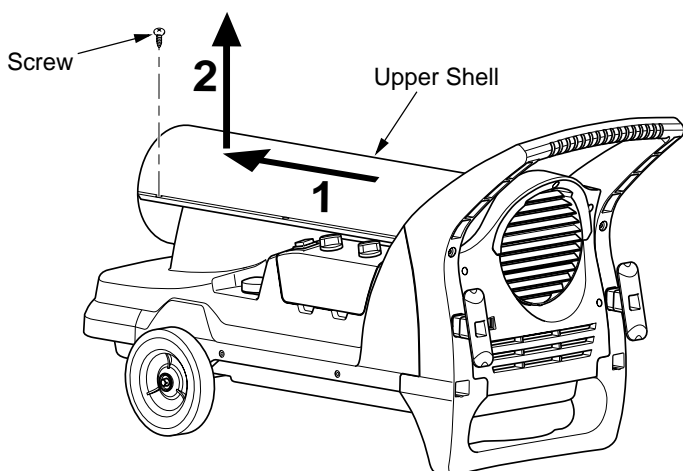
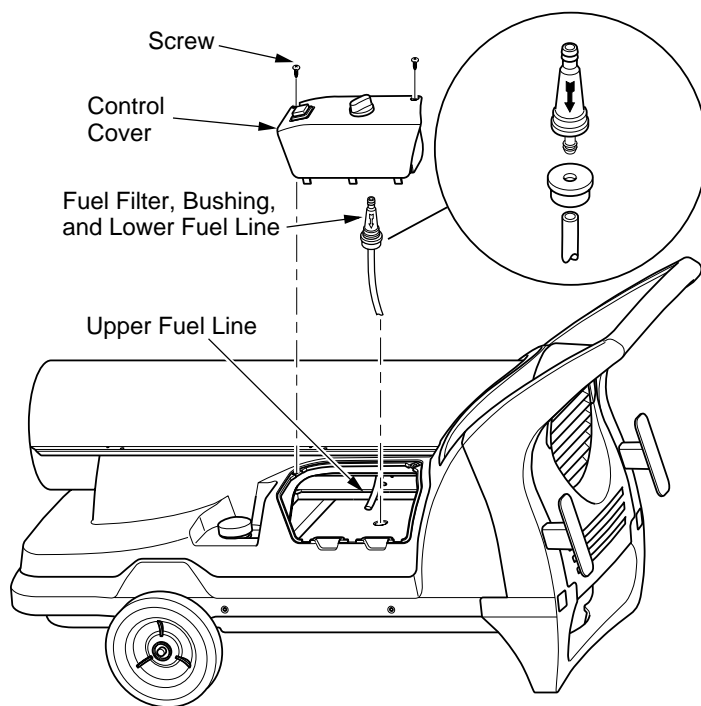
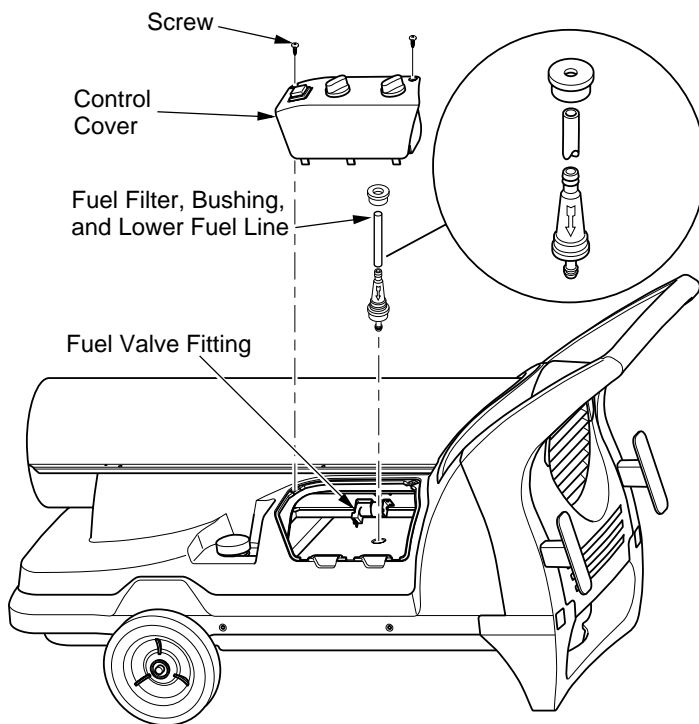

Figure 6 - Upper Shell Removal (Variable Output Model Shown)
Figure 12 - Fuel Filter Removal
Figure 13 - Fuel Filter Removal, 200VT Model Only
1. Remove screws along each side of heater using phillips screw-driver. These screws attach upper and lower shells together. See Figure 6.
1. Remove upper shell (see Figure 6).
3. Pull upper fuel line off fuel filter neck (see Figure 12).
4. Carefully pry bushing, fuel filter, and lower fuel line out of fuel tank (see Figure 12).
2. Remove control cover (see Figure 13).
3. Pull lower fuel line off the fuel valve fitting (see Figure 13).
1. Remove control cover (see Figure 13) and upper shell (see Figure 6, page 9) screws using phillips screwdriver.
3. Remove 2 control cover screws with a phillips screwdriver. Remove control cover (see Figure 12, page 10 or Figure 13, page 11, according to model).
12. Replace control cover (see Figure 12, page 10 or Figure 13, page 11, according to model).
2. Remove control cover screws using phillips screwdriver (see Figure 12, page 9).